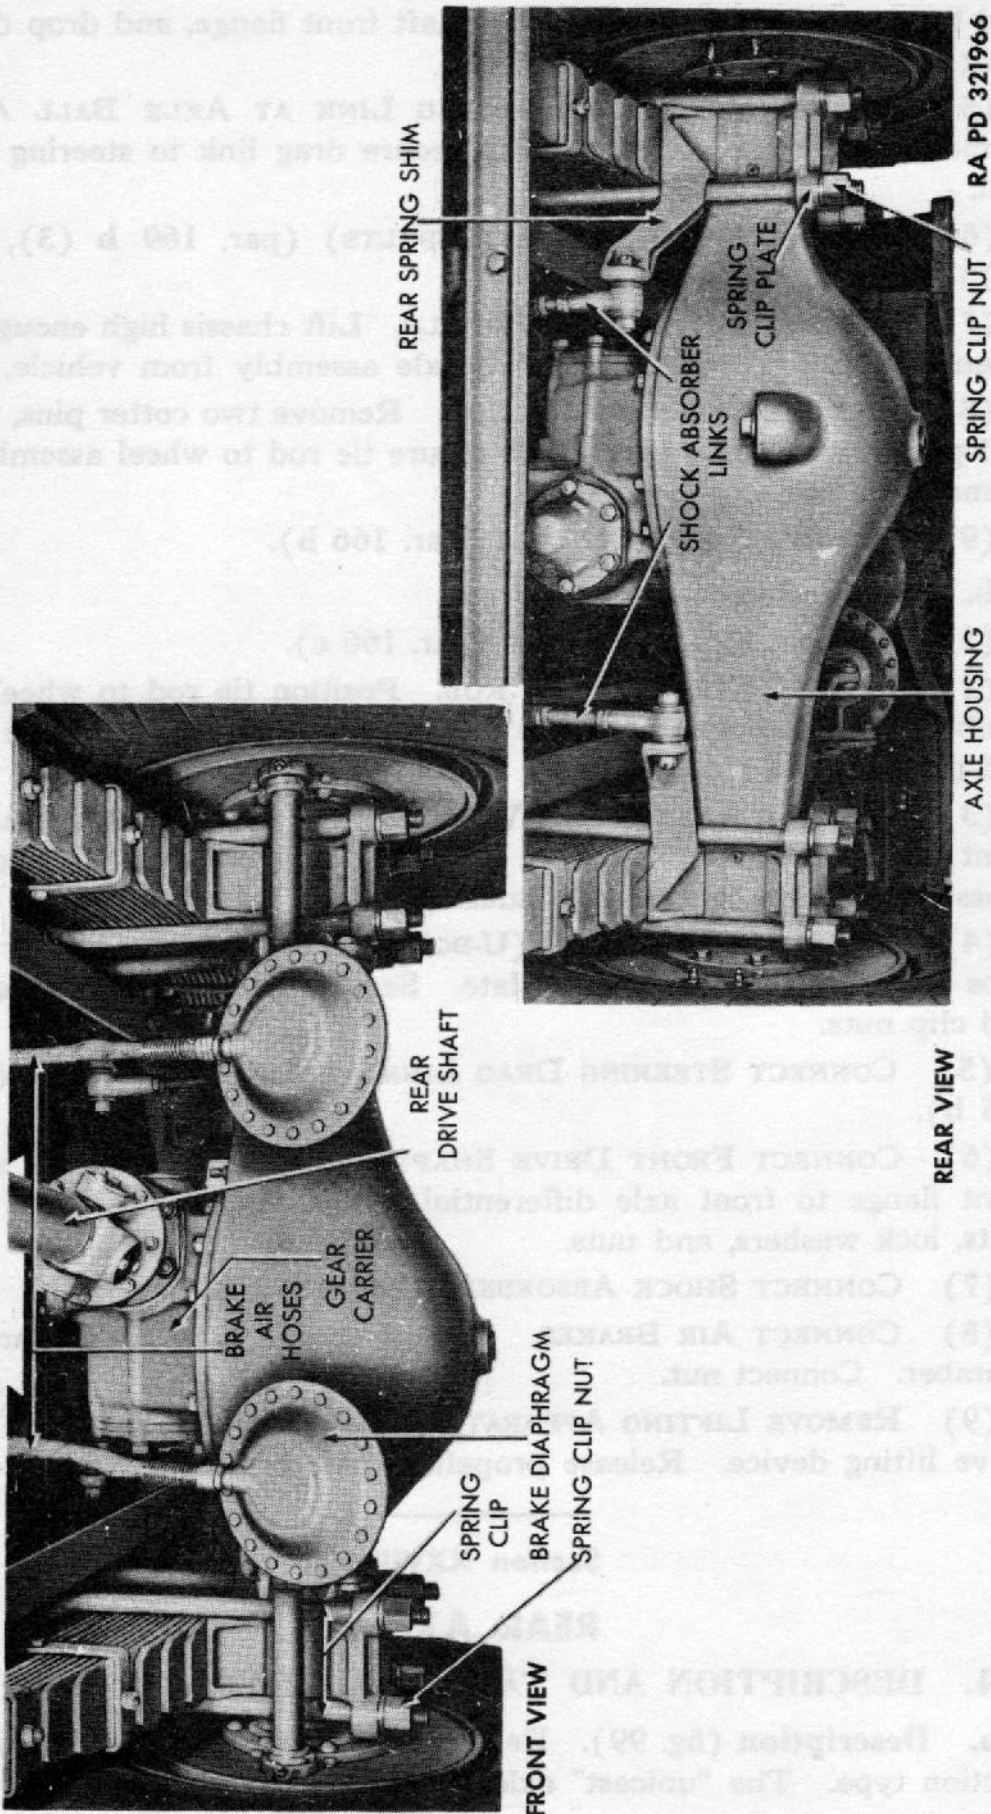

Figure 99 — Rear Axle Installed
a. **Description** (fig. 99). Rear axle is of conventional double reduction type. The "unicast" axle housing has inserted tubes which
(1) REMOVE REAR SHOCK ABSORBER LINKS (fig. 99). Remove nut, lock washer, and flat washer attaching right-hand link end to rear spring shim at bottom and to shock absorber arm at top. Remove outer rubber bushings from top and bottom link ends. Pry link ends off top and bottom bolts. Follow same procedure to remove left-hand shock absorber link.
(2) DETACH AIR BRAKE HOSE. Detach air brake hose from two rear brake diaphragms by backing off hose connecting nut, and pulling hose off connection on each diaphragm. Seal opening on diaphragms with tape or cloth to prevent entrance of dust or dirt.
(3) DETACH REAR DRIVE SHAFT. Remove nuts, bolts, and lock washers attaching rear drive shaft to rear axle drive flange. Lift off rear drive shaft, and secure to one side with rope or wire.
(4) BLOCK UP REAR AXLE. Place wooden blocks on a jack or dolly, and support rear axle behind brake diaphragms. This must be done to prevent differential from tipping to floor when axle is detached from chassis.
(5) REMOVE SPRING CLIPS AND PLATES. Remove nuts and lock washers from spring clips. Tap up, and remove spring clips. Tap off rear spring clip plate from each side.
(6) REMOVE REAR AXLE ASSEMBLY. Lift or jack up rear of vehicle sufficiently to allow rear axle assembly to be rolled from under vehicle.
(7) REMOVE WHEELS (par. 166 b).